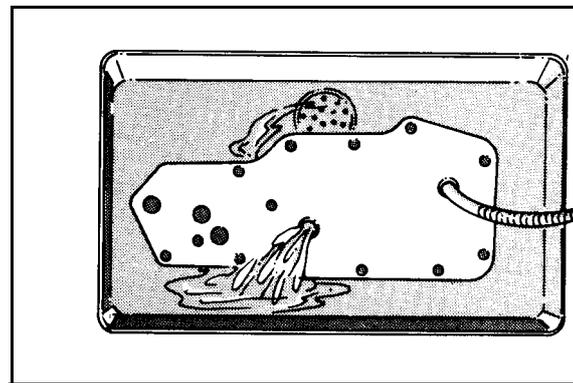

Figure 6-5
2. Remove plugs and soak cooler core in solvent. Back flush oil passages and dry with compressed air (Figure 6-5).